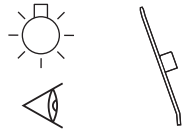

Fig. 28
- 2 Visually check that all contamination is removed (Fig. 28). In case there is residual contamination, repeat the procedures of Pre-cleaning through Purging until all contamination is removed. Proceed to Checking (Refer to "10-4 Checking").